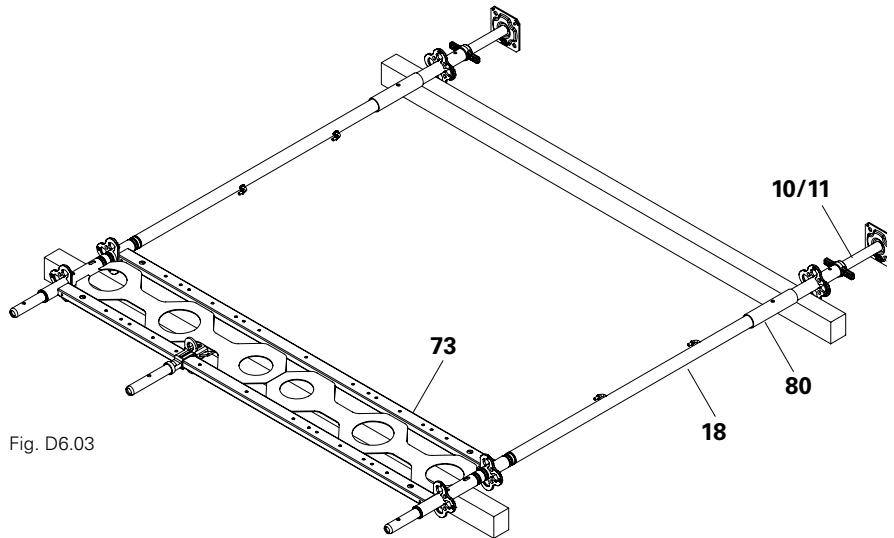

Fig. D6.03
1. Spindle out Base Spindles UJB 38-50/30 (10) sufficiently so as to realise the required clear passage height.
2. Connect base spindle to Base Standard UVB 25 (80), Tube EVR 150 (18) and the prepared Multi Girder ELM.
3. Fit additional frame columns. (Fig. D6.03)